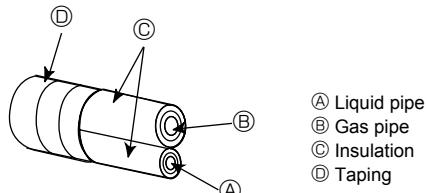

Fig. 5-4
5.5. Connecting pipes (Fig. 5-4) (Fig. 5-5)
When commercially available copper pipes are used, insulate both the liquid and gas pipes separately with commercially available insulation materials (heat-resistant to 100 °C, 212 °F or more, thickness of 12 mm, 1/2 inch or more). (Fig. 5-4)